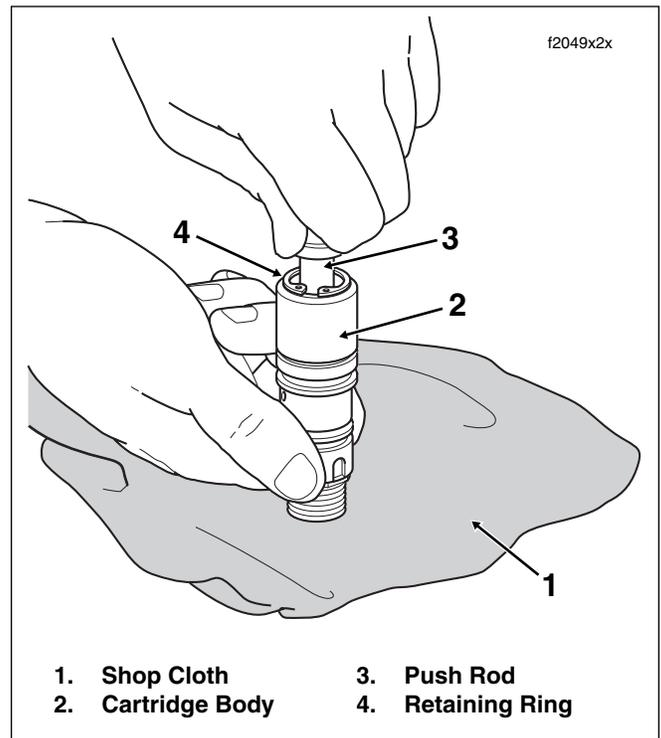

Figure 2-53. Compress Spring and Install Retaining Ring
4. Stand cartridge body upright on banjo sealing surface. Lay down a clean shop cloth to protect the sealing surface from damage. See Figure 2-53.